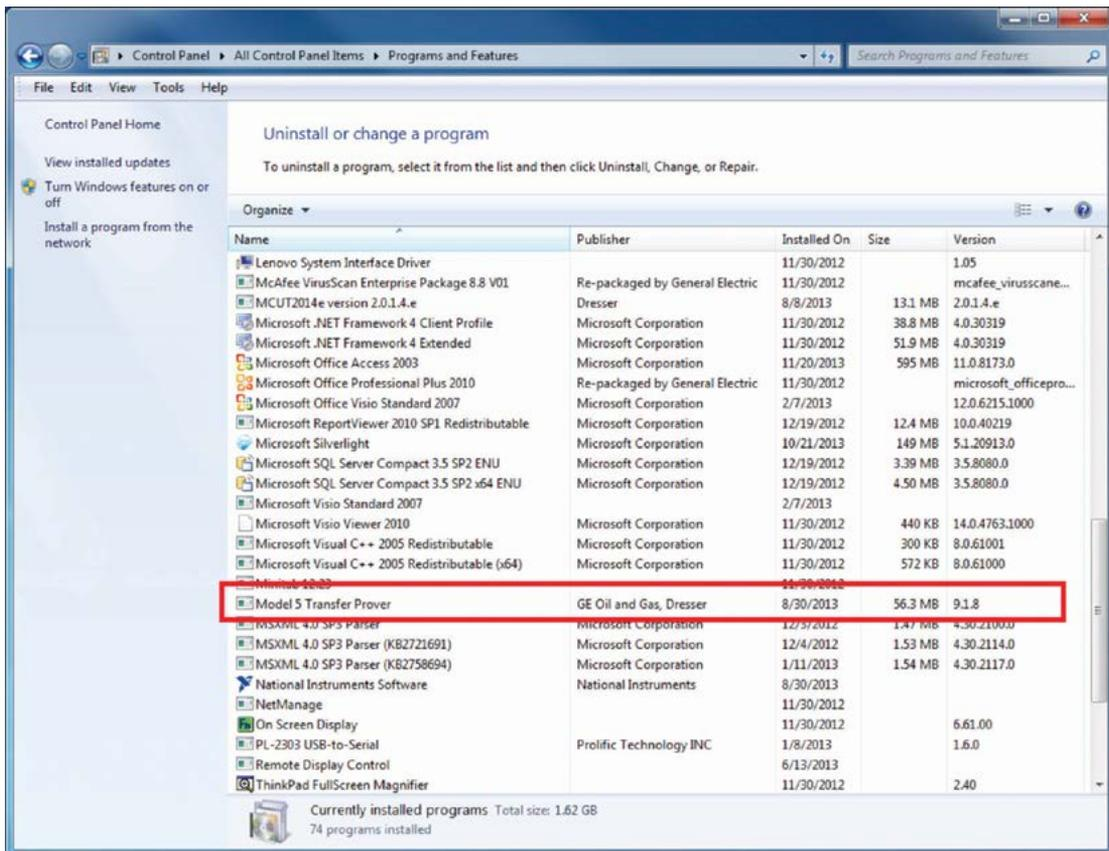

Figure 24: Model 5 Transfer Prover Program
3. Search for the program entitled "Model 5 Transfer Prover". Double click to uninstall. Refer to **Figure 24**.